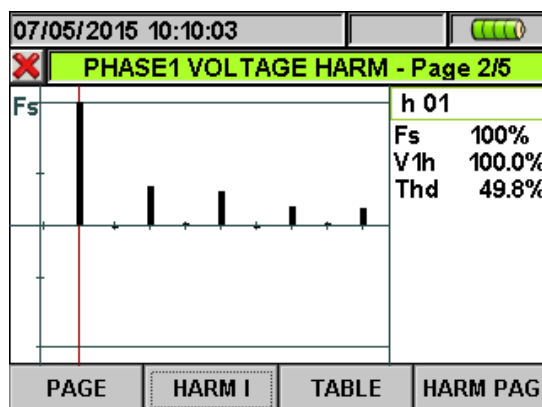
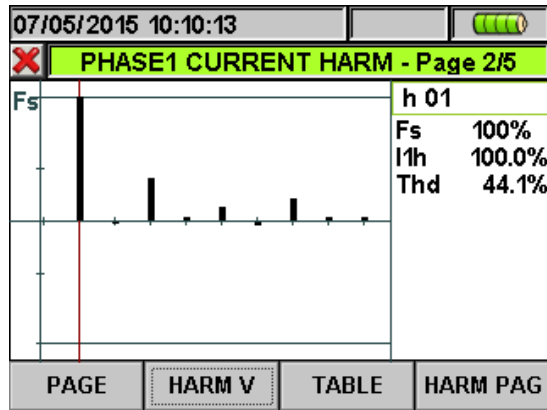

Fig. 45: Harmonic analysis voltage V1 in percentage values for 4-wire system
Fig. 46: Harmonic analysis of current I1 in percentage/absolute values for 4-wire system
- Harmonics values of single V1, V2, V3 voltages and neutral voltage Vn and single currents I1, I2, I3 and neutral current In (for three phase 4-wire system) with THD% values both with histogram graphics and with numerical values in percentage or absolute value depending on the desired settings. These values are shown in four pages selectable by pressing cyclically the **F1** key (or touch the "PAGE" at display). On Fig. 45 and Fig. 46 are display as an example, the situation relative to L1 phase for voltage and current on 4-wire systems is shown in the next pictures: